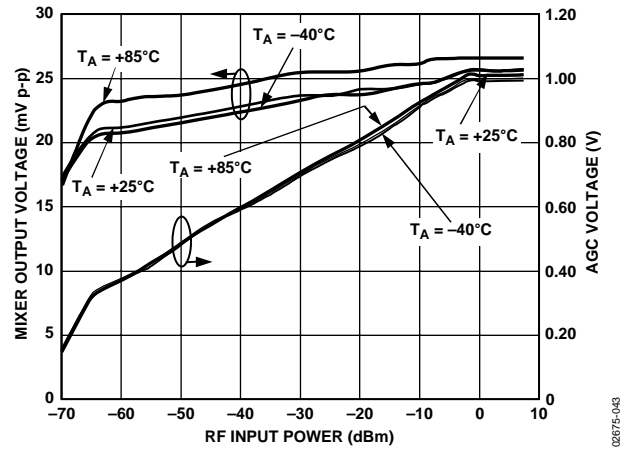
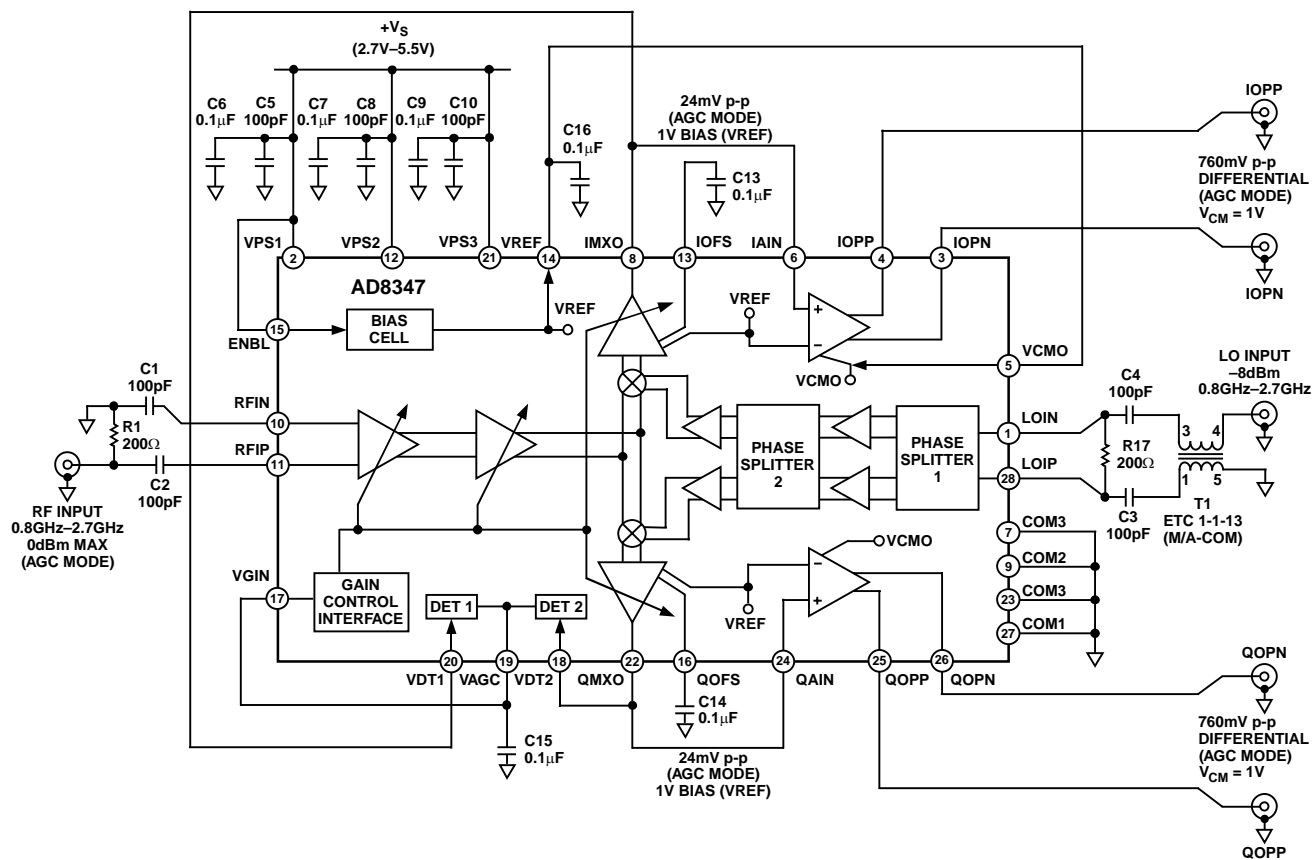
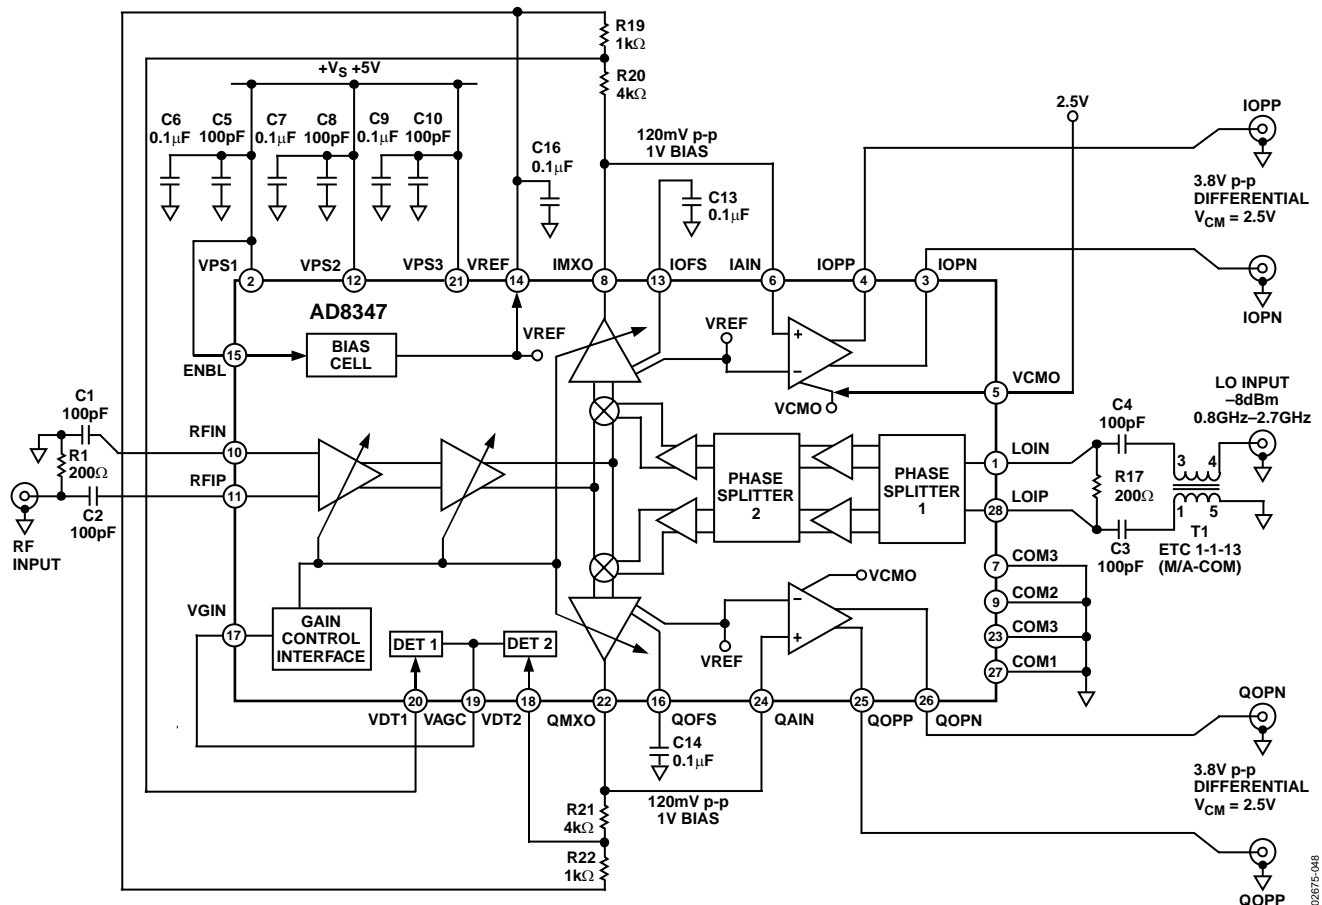

Figure 34. AGC Voltage and Mixer Output Level vs. RF Input Power,  $F_{LO} = 1900\text{ MHz}$ ,  $F_{BB} = 1\text{ MHz}$ ,  $V_S = 5\text{ V}$
Figure 46. Basic Connections
Figure 48. Adjusting AGC Level to Increase Baseband Amplifier Output Swing
The basic connections for operating the AD8347 are shown in Figure 46. The device is powered through three power supply pins: VPS1, VPS2, and VPS3. These pins supply current to different parts of the overall circuit. VPS1 and VPS2 power the local oscillator (LO) and RF sections, respectively, while VPS3 powers the baseband amplifiers. Connect all of these pins to the same supply voltage; however, separately decouple each pin using two capacitors. 100 pF and 0.1  $\mu$ F capacitors are recommended, though values close to these can be used.
For optimum performance, the LO inputs, LOIN and LOIP, should be driven differentially; the M/A-COM balun, ETC1-1-13 is recommended. Unless an ac-coupled transformer is used to generate the differential LO, the inputs must be ac-coupled, as shown in Figure 46. To improve broadband matching to a 50  $\Omega$  source, connect a 200  $\Omega$  shunt resistor between LOIP and LOIN.
The connections for operating in this mode are shown in Figure 46. The two mixer outputs are connected to Detector Input VDT1 and Detector Input VDT2. The summed detector output drives an internal integrator which, in turn, delivers a gain correction voltage to the VAGC pin. A  $0.1\ \mu\text{F}$  capacitor from VAGC to ground sets the dominant pole of the integrator circuit. VAGC, which should be connected to VGIN, adjusts gain until an internal threshold is reached. This threshold corresponds to a level at the IMXO and QMXO pins of approximately 8.5 mV rms. This level changes slightly as a function of RF input power (see Figure 34). For a CW (sine wave) input, this corresponds to approximately 24 mV p-p. If this signal is applied directly to the subsequent baseband amplifier stage, the final baseband output is 760 mV p-p differential. See the Baseband Amplifiers section.
The AGC circuit can be easily set up to level at voltages higher than the nominal 24 mV p-p, as shown in Figure 48. The voltages on Pin IMXO and Pin QMXO are attenuated before being applied to the detector inputs. In the example shown, an attenuation factor of 0.2 (–14 dB) between IMXO and QMXO and the detector inputs causes the VGA to level at approximately 120 mV p-p (note that the resistor divider network must be referenced to  $V_{REF}$ ). This results in a peak-to-peak output swing at the baseband amplifier outputs of 3.8 V differential, that is, 1.6 V to 3.4 V on each side. Note that  $V_{VCMO}$  has been increased to 2.5 V to avoid signal clipping at the baseband outputs. Due to the attenuation between the mixer output and the detector input, the variation in the settled mixer output level vs. RF input power will be greater than the variation shown in Figure 34. The variation will be greater by a factor equal to the inverse of the attenuation factor.
The single-ended input signal to the baseband amplifiers is applied at IAIN and QAIN, the high impedance inputs. As shown in Figure 46, the baseband amplifier operates internally as a differential amplifier, with the second input driven by  $V_{REF}$ . Therefore, bias the input signal to the baseband amplifier at  $V_{REF}$ .